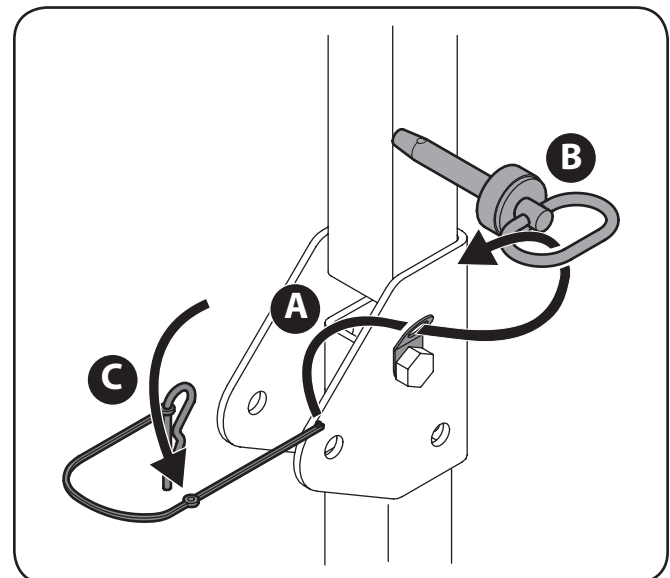

Figure 3-5
7. Route the nylon lanyard as shown in Fig. 3-5. Be sure to secure the lanyard to the retaining clip and clevis pin.